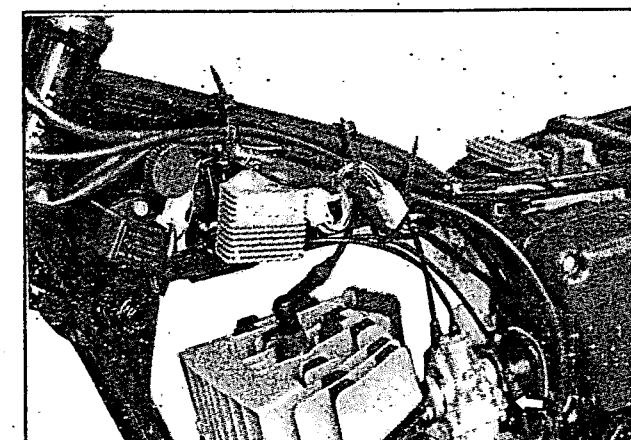
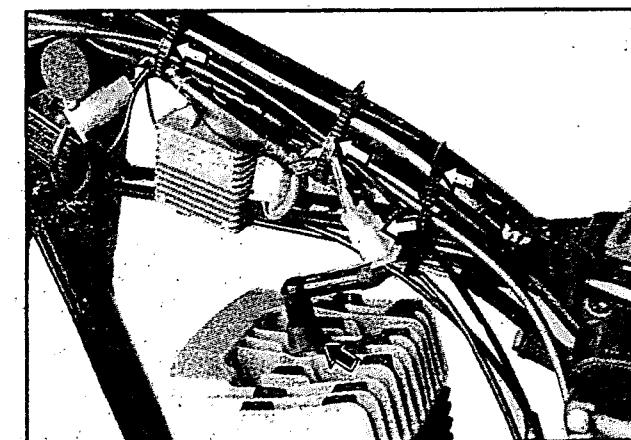

Fig 3.6
Fig 3.7
- Take off the harness clamps. (fig 3.6 and fig 3.7)
- Disconnect the magneto lead wire socket and detach the spark plug cap (fig 3.7)